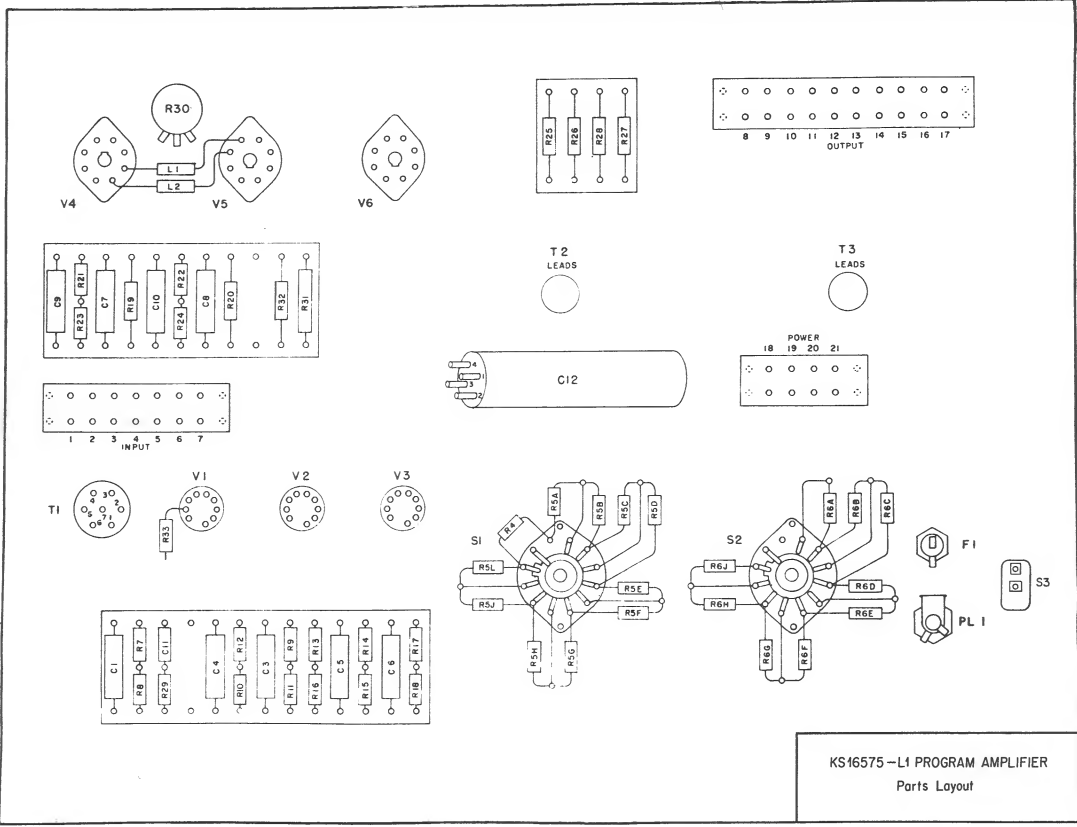

Fig. 6 - Parts Location Diagram
3.01 When the amplifier fails to meet test requirements and the cause is not due to defective tubes, the amplifier should be checked (*with the power disconnected*) for visible evidence of malfunction due to defective components. Fig. 5, page 7, shows a schematic diagram of the amplifier. If any component part appears to be damaged or defective, it can be identified with the parts location diagram. This diagram is shown in Fig. 6, page 8.